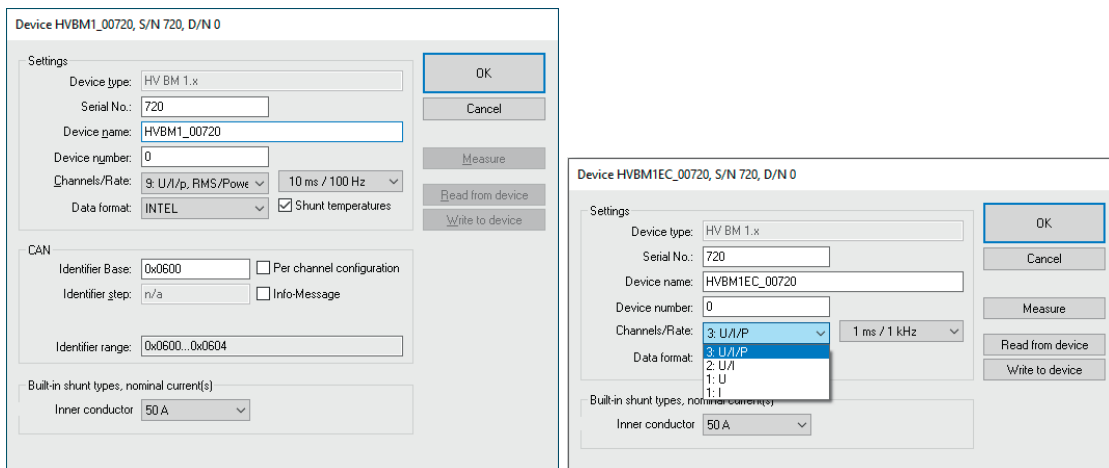

Fig. 6-35: Device configuration dialog, module connected via CAN (left) and via ECAT (right)
- ➞ Go to the **Device configuration dialog** (Fig. 6-35) and click on **Read from device**.
If the default name is retained, it will be automatically adjusted as soon as the serial number is changed. The name entered in this field is also used as a component for the channel designation (Fig. 6-35).
If the measurement module is connected via CAN, the **Device Configuration dialog** will also include the **CAN** section (Fig. 6-35).
The range of the CAN identifiers used is displayed in the **Identifier range** field. By default, CAN identifiers and transmission rate (Fig. 6-35) are specified per device.